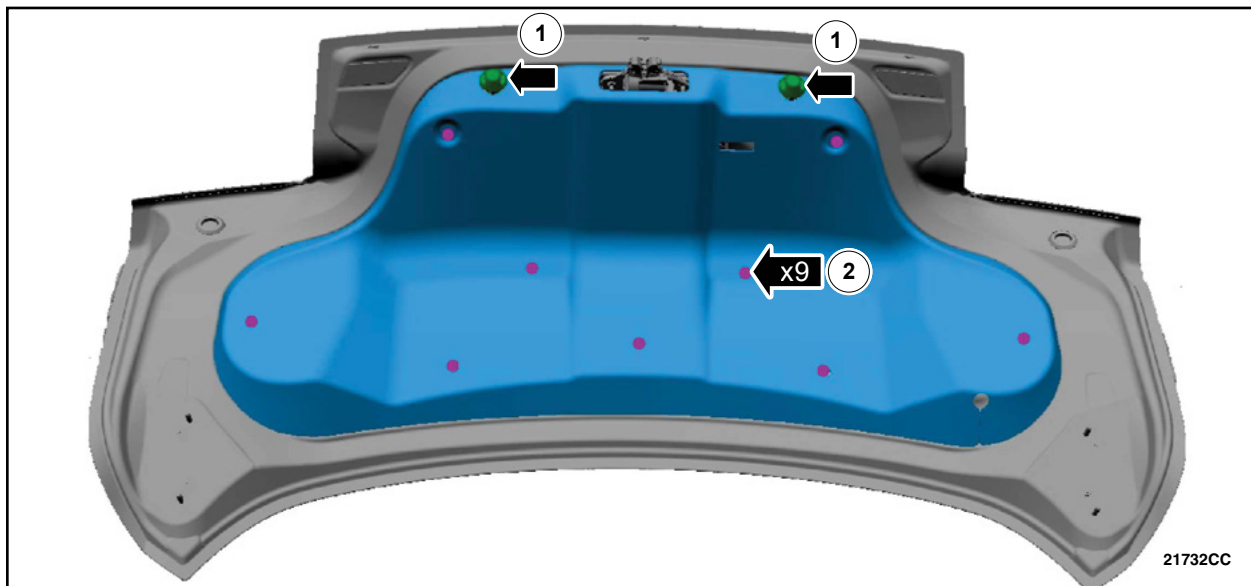

FIGURE 4
9. Remove the luggage compartment lid trim panel. See Figure 4.